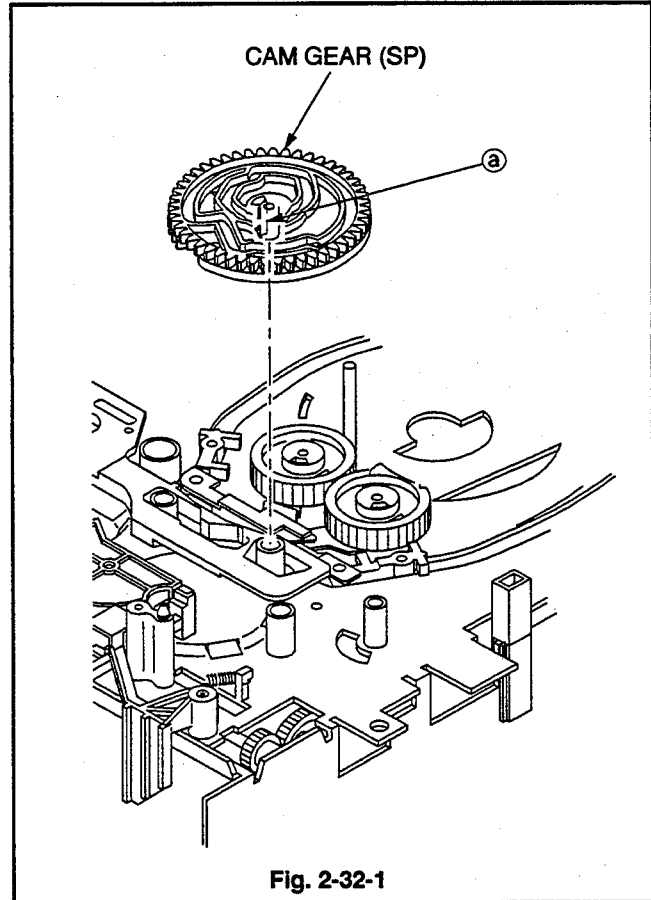

Fig. 2-32-1
1. Use tweezers to unfasten Catch (a) on the surface of the CAM GEAR (SP), shown in Fig. 2-32-1, and remove the CAM GEAR (SP).